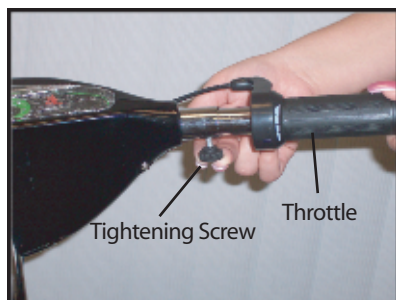

Fig. 2
1. Insert throttle into handle bars and secure with tightening screw. (Fig. 2)